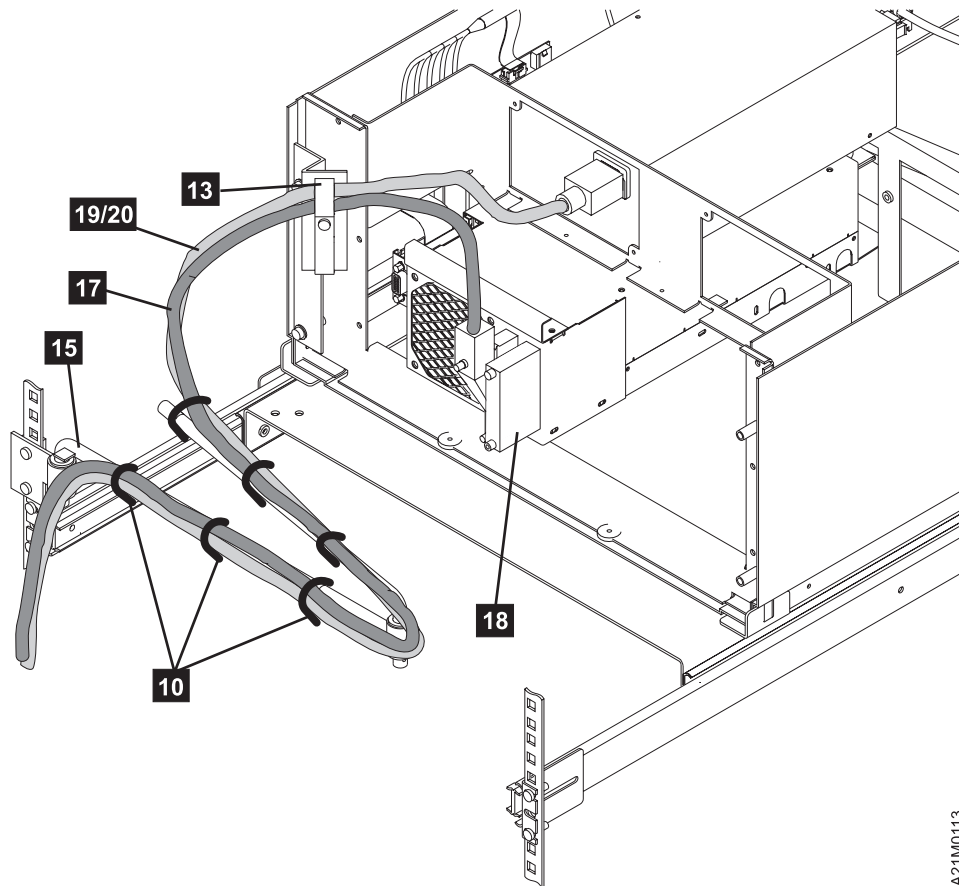

Figure 43. Model C21 cable Routing
- ___ Step 5. Install the long SCSI host cable **17**. Plug the right-angled plug into the left-most 68-pin socket (see Figure 43) so the cable is looped upward. Route it to the upper wing of the clamp (loop the cable so it does not extend above the top of the 3570 you are installing). With both the power cord and the SCSI cable captured in the upper wing of the clamp, tighten the screw.